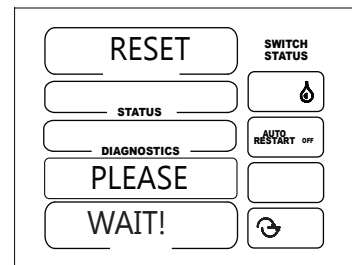

Figure 51-2
4. Press  to reset the panel to the factory defaults. See figure 51-2.